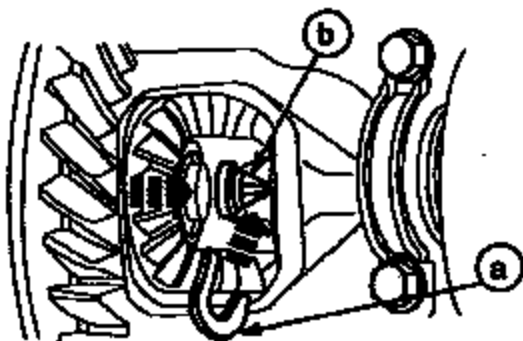

FIGURE 20
4. Install the U-washer (refer to Figure 20).